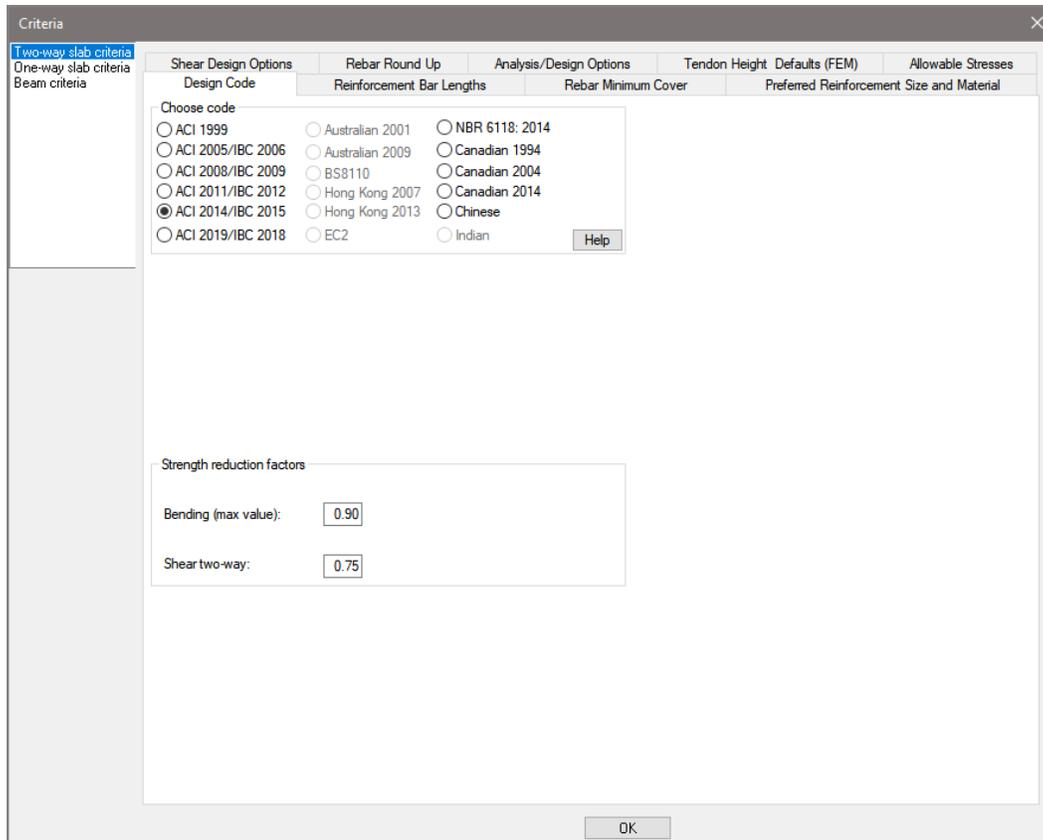

Figure 2-9
- Go to *Criteria* → *Design Criteria* and click on the *Design Code*  icon. This will open the *Criteria* window from **FIGURE 2-9**.